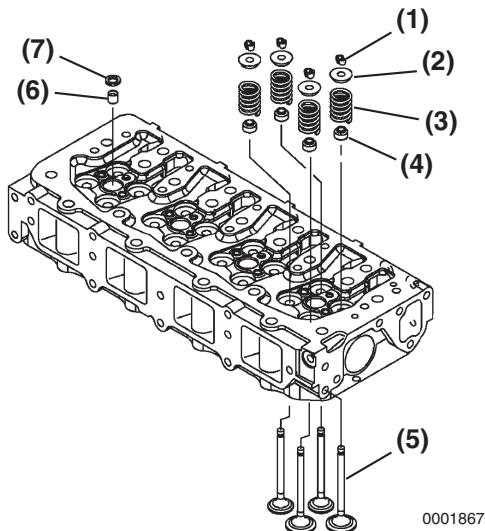

Figure 6-46
3. Remove the valve keepers (**Figure 6-46, (1)**).
5. Remove the spring retainer (**Figure 6-46, (2)**), valve spring (**Figure 6-46, (3)**).
7. Remove the injector nozzle protectors (**Figure 6-46, (6)**) and the seats (**Figure 6-46, (7)**).
8. Turn the cylinder head so the exhaust port side faces down. Remove the intake and exhaust valves (**Figure 6-46, (5)**) from the cylinder head.
9. Remove the valve stem seals (**Figure 6-46, (4)**).